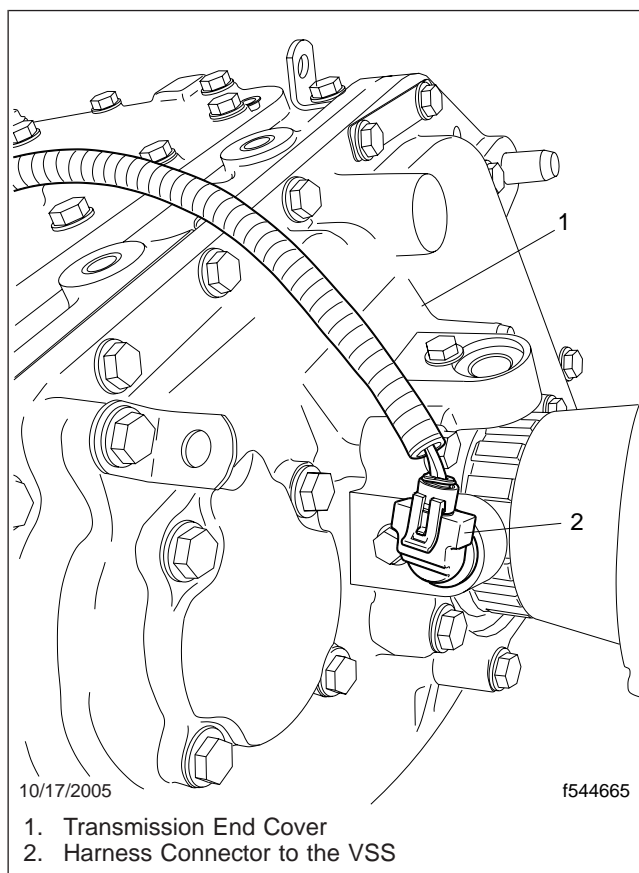

Fig. 1, Vehicle Speed Sensor Location
2. Disconnect the VSS harness at the connector located in the transmission end cover. See Fig. 1.